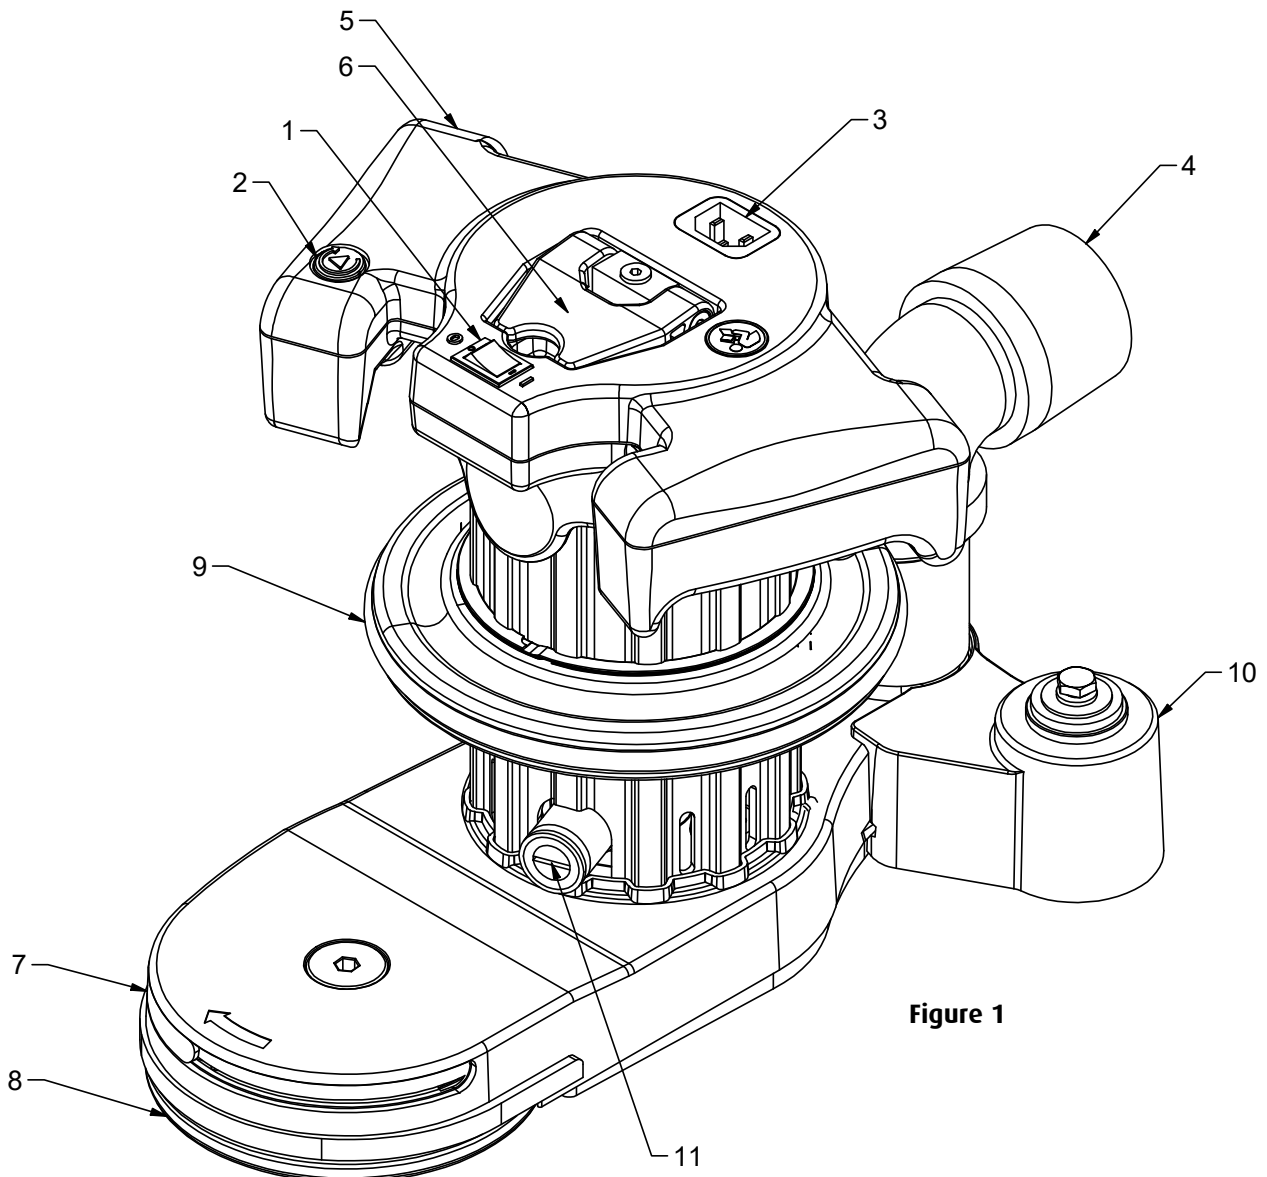

Figure 1
3. Make sure the control switch is in the "OFF" position then connect the power cable to an appropriately grounded fused circuit. Connect the power cable to the Power Cord Receptacle (Figure 1).
4. With the machine in the reclined position move the ON/OFF switch to the "ON" position (Figure 1).